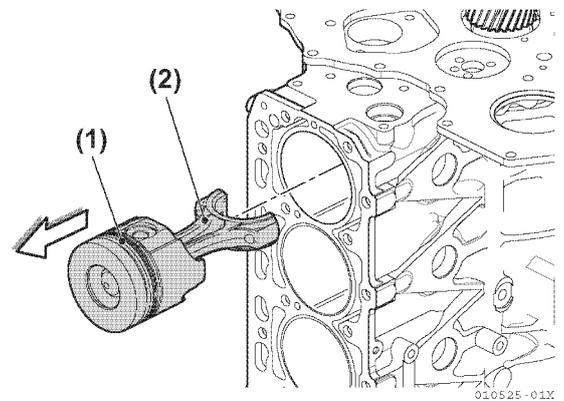

**Figure 5-49**
- 43. Remove the camshaft (Figure 5-49):